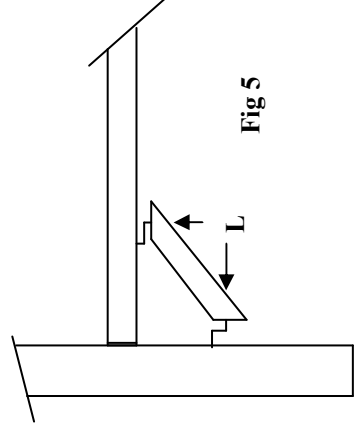

Fig 5
8. Finally fix the struts at the front of the arbour between the post and underside of the seat using screws (L) as Fig 5